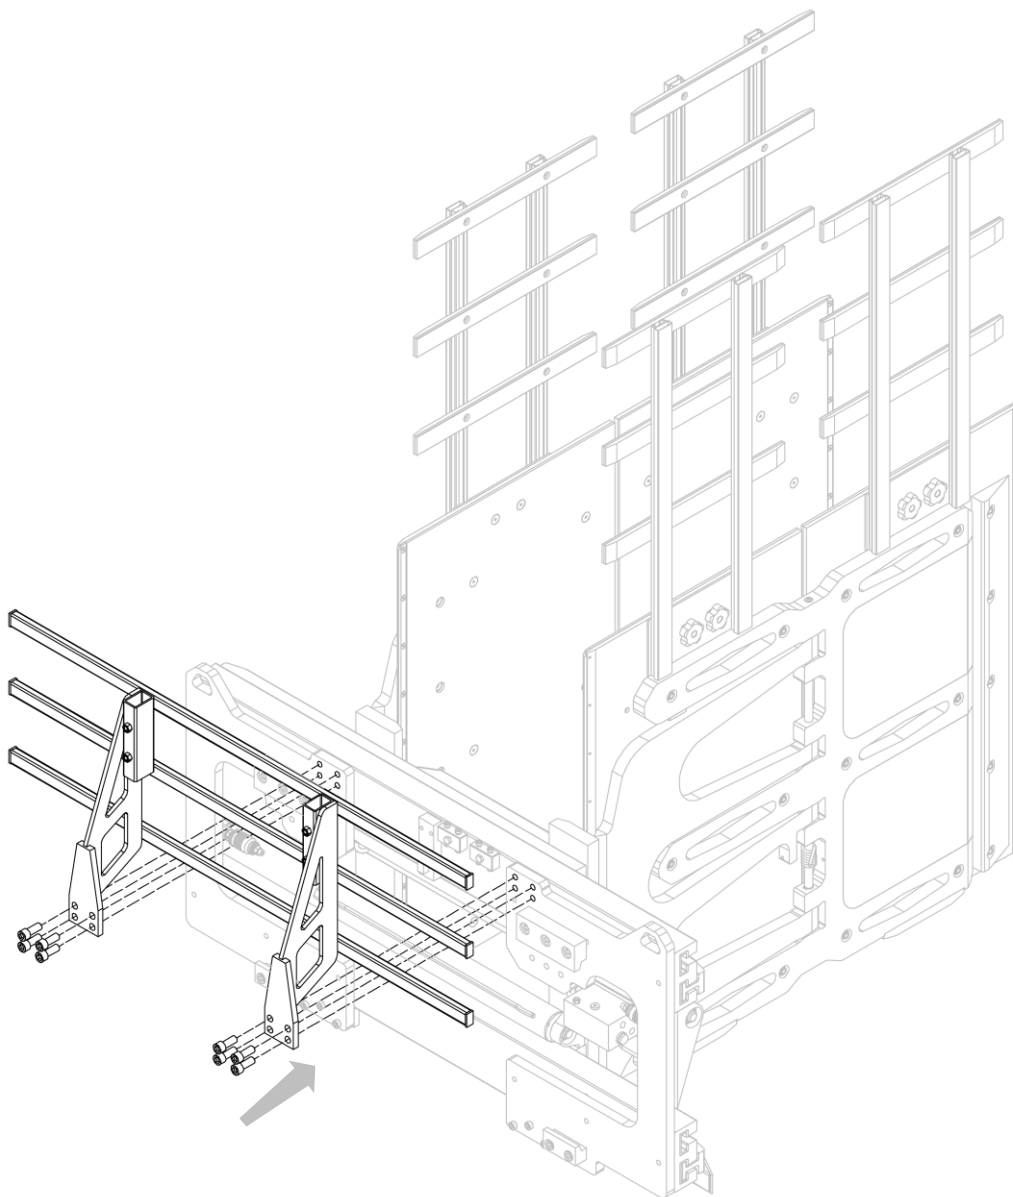

Figure 43
3. Install the retaining frame on the equipment (see *Figure 43*).